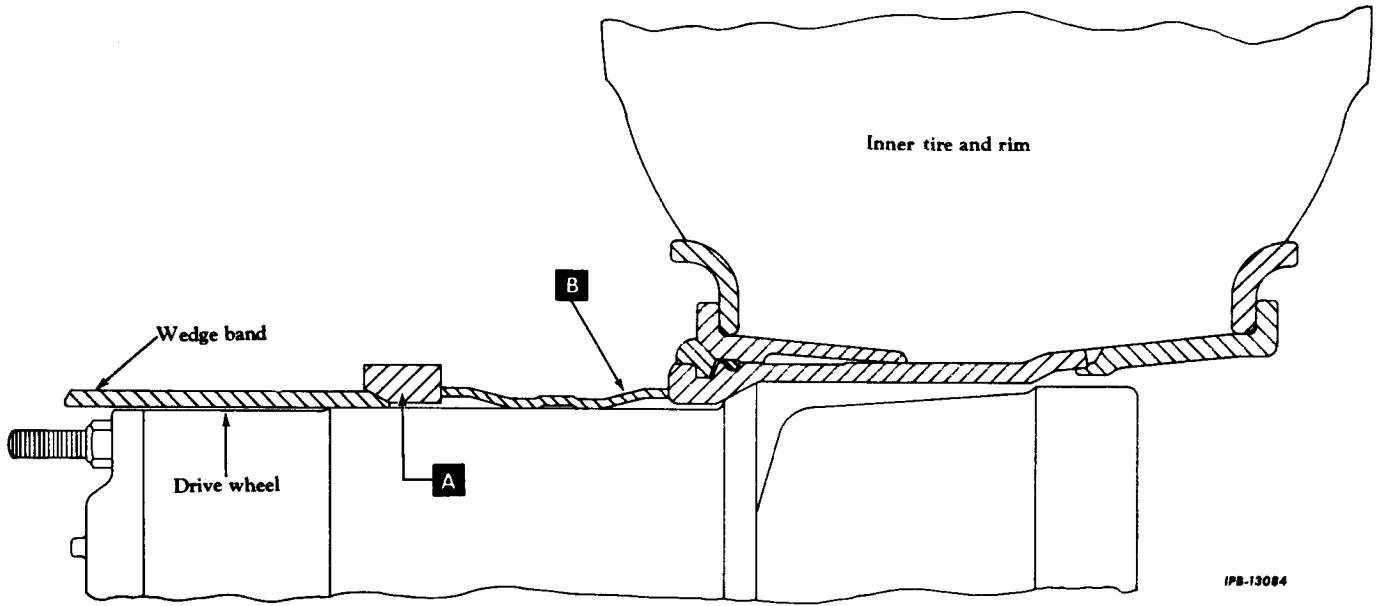

Fig. 6. Shipping Spacer Installation
e. Install the shipping spacer (A, Fig. 6) so this spacer butts against the dual wheel spacer (B, Fig. 6) as shown.